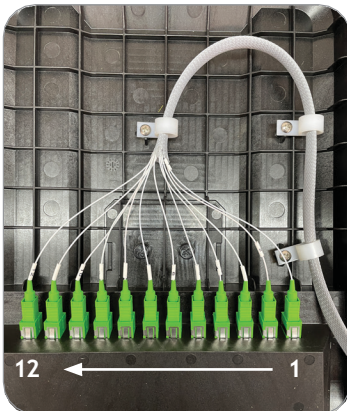

Figure 90
2. Plug in the pigtail connectors to the adapters, ensuring they are inserted in the correct numerical order. (Figure 90)